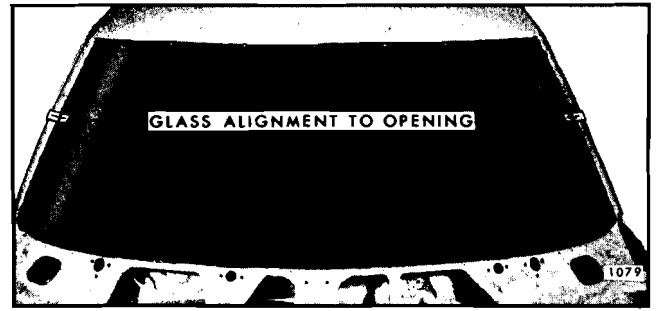

Fig. 4-5—Aligning Glass in Opening
3. When glass is in proper position in the opening, apply a piece of masking tape over each side edge of glass and adjacent body pillar (Fig. 4-5). Slit tape vertically at edge of glass. During installation, tape on glass can be aligned with tape on body to guide window into desired position.
10. After final adjustments have been made and glass is in proper position, apply pieces of masking tape over edges of glass and body (Fig. 4-5 or 4-9), depending on window being installed). Tape on glass can be aligned with tape on body to guide glass into opening during installation.